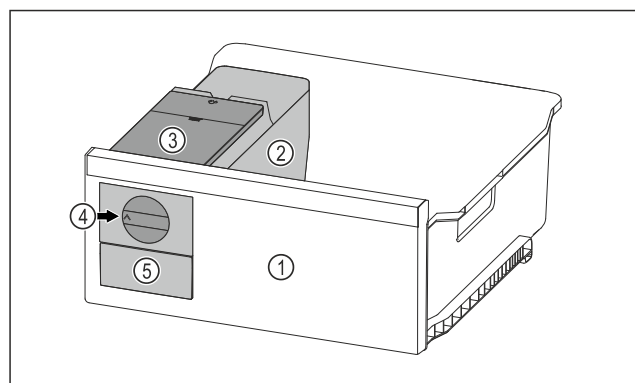

Fig. 70 Example illustration
- ▶ Turn the rotary knob Fig. 70 (4) clockwise as far as it will go.
- ▶ Ice cubes fall from the ice cube tray into the ice cube drawer Fig. 70 (5).